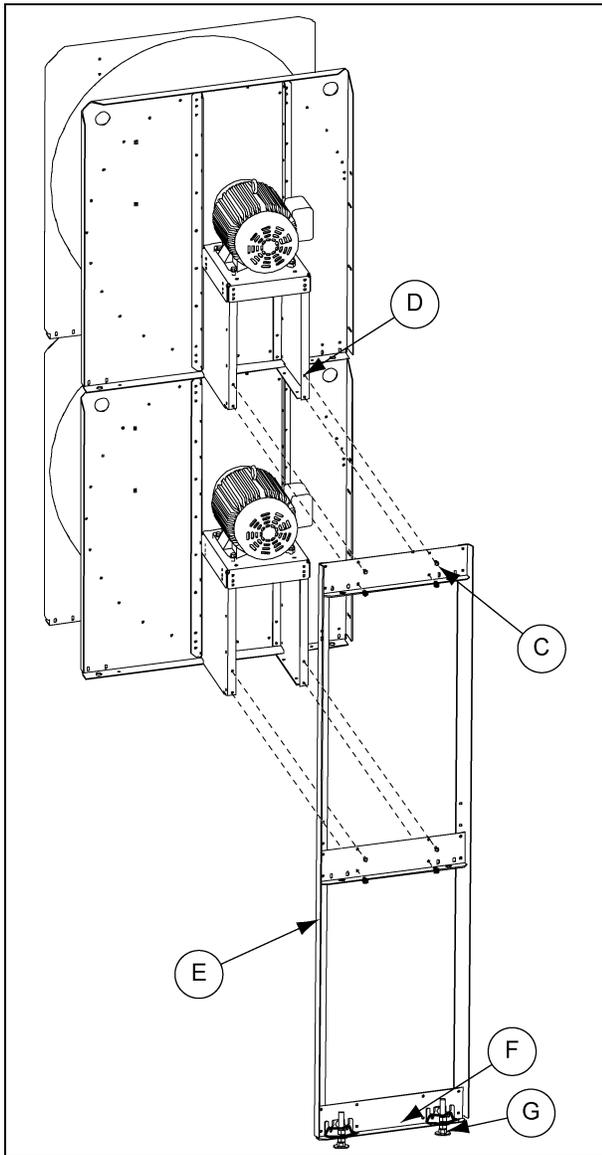

Figure 6L
2. Remove all the feet from both fan housings feet and re-install six (6) of the feet onto the fan support assembly (O) and two (2) of the feet onto the fan motor support (A). (See Figures 6L and 6M on Pages 39 and 40.)
3. Attach fan assembly to the fan support assembly using six (6) 5/16" x 3/4" flange bolts (C) and 5/16" flange nuts (D). **NOTE: Middle hole will need to be drilled through bottom flange in fan.**
4. Attach top fan to the bottom fan using six (6) 5/16" x 3/4" flange bolts (C) and 5/16" flange nuts (D). **NOTE: Middle holes do not exist and need to be drilled through both fan flanges.**
5. Attach two (2) fan motor support verticals (E) to three (3) fan motor support horizontals (F) using twelve (12) 5/16" x 3/4" flange bolt (C) and 5/16" flange nut (D). Then, attach the fan motor support assembly to the fan housing using eight (8) 5/16" x 3/4" flange bolts (C) and 5/16" flange nuts (D).
(See Figure 6L.)